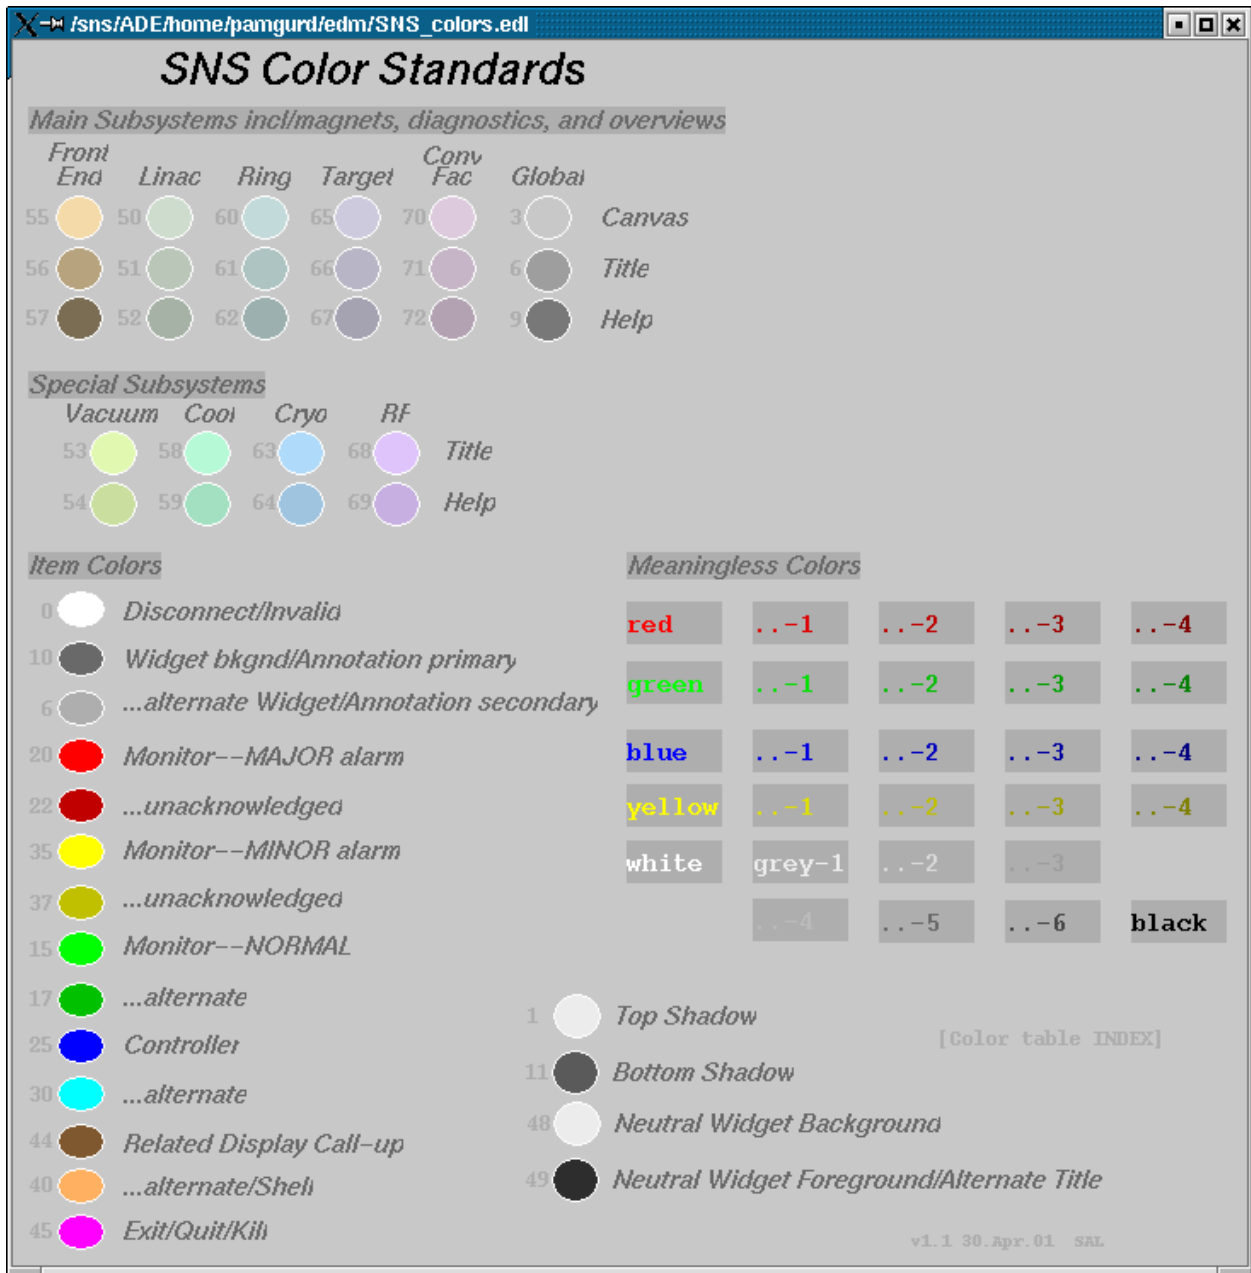
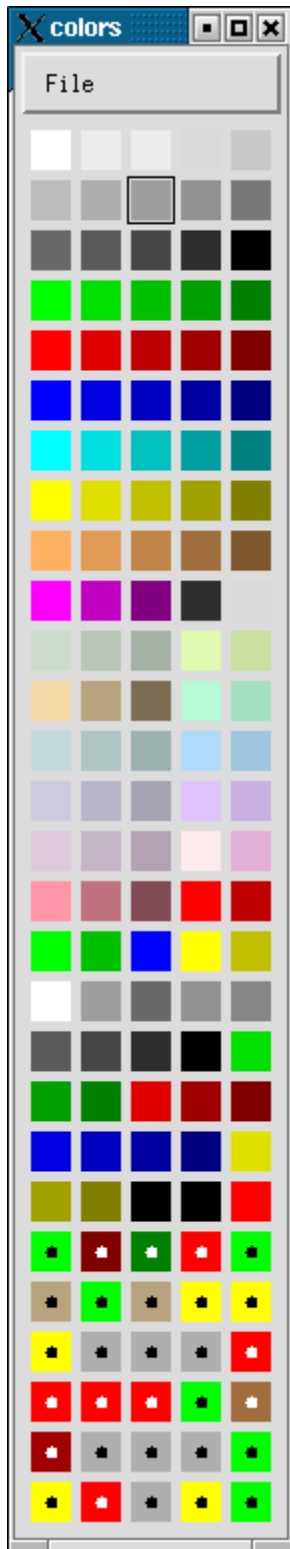
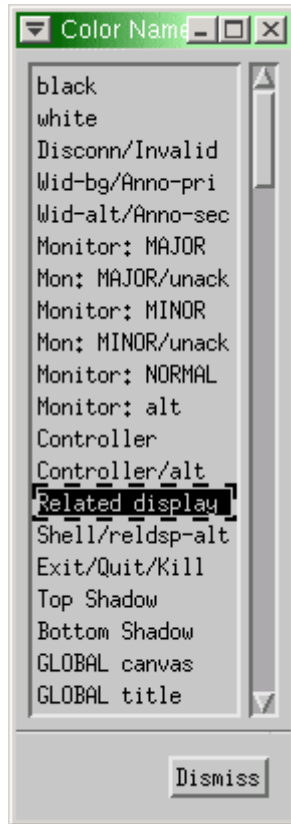
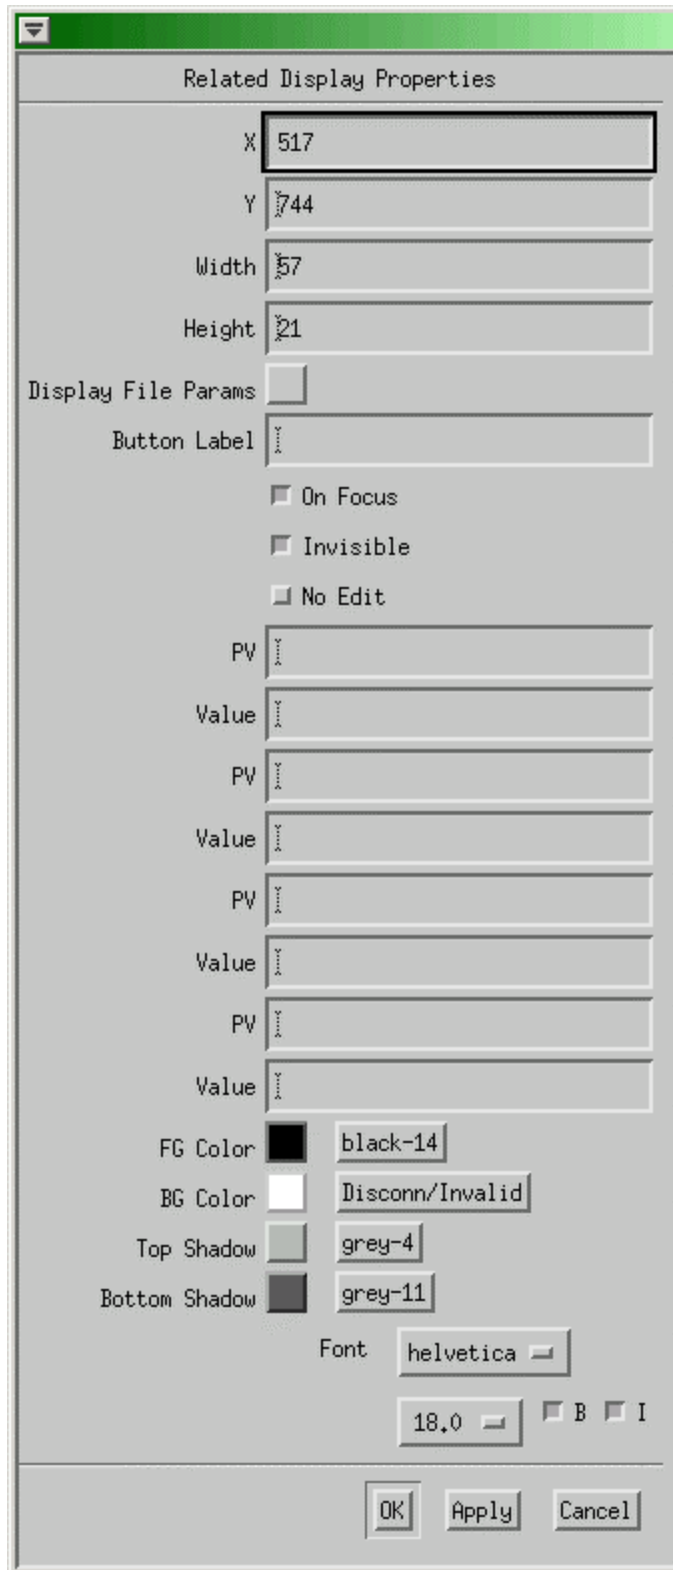

Figure 2-2a: SNS Standard Color Usage
Figure 2-2b: SNS EDM Colors and Color Rules
Figure 2-2c: SNS EDM Color Names
Figure 2-2d: EDM Related Display Properties Dialog Box
display of the SNS standard colors is shown in Fig. 2-2a. A full color palette is shown in Fig. 2-2b and the corresponding color names list (partial view) is shown in Fig. 2-2c. Colors can be selected for use in the widget properties dialog box (see example of this for the Related Display widget in Fig. 2-2d.) either from the color palette or from the color names. Colors shown with dots in the center of the color square are used to indicate which colors in the palette are associated with color rules (see discussion in Color Rules section).
Table 2-1 lists the 14 major colors (shown in the lower left of the SNS standard colors screen of Fig. 2-2a) and their standard uses.
Color schemes can be defined for subsets of colors that are used in collections of screens for particular systems (see the two top groups shown for the SNS Standard Colors in Fig. 2-2a) or groupings of widgets. Color scheme files can be saved using the middle mouse button popup menu selection for saving color schemes (either “default.scheme” or a .scheme file of whatever name the user chooses). The EDM documentation explains how to do this.
- Alternatively, a *version item* can be placed on each screen at the extreme upper, right corner, consisting of a small (8x8-pixel) Related Display Call-up with the Visual attribute "invisible". Using \$Id\$ for the "Button Label" argument (see Fig 2-2d) will allow bringing up the current CVS/RCS expanded string in either edit-mode or run-mode.